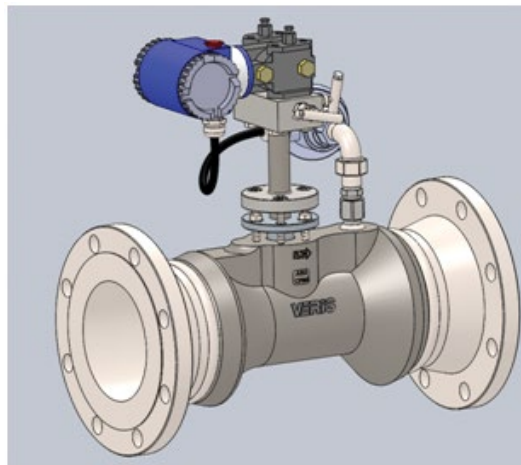

Figure 7. RTD Assembly Orientation
- Gently thread the RTD wires through the elbow. Apply the same thread sealant to the elbow threads and thread into union. If necessary, loosen the union and position the elbow so that it points to the side of the body as shown in Figure 7, re-tighten the union.
- Push the RTD wires into the junction box and thread the box onto the elbow in the orientation shown in Figure 7.